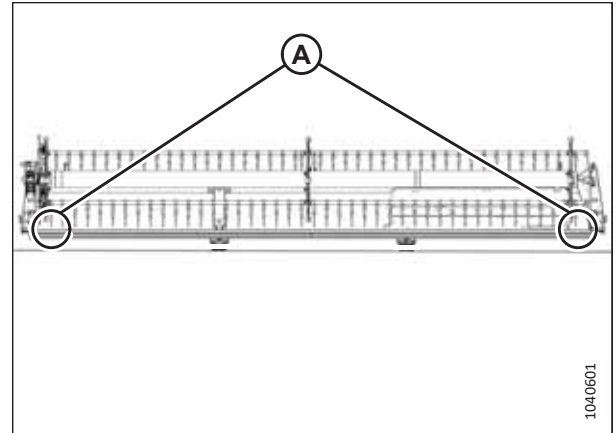

Figure 5.131: Single-Reel Header Measurement Locations
- Figure 5.131, page 301 – single-reel headers